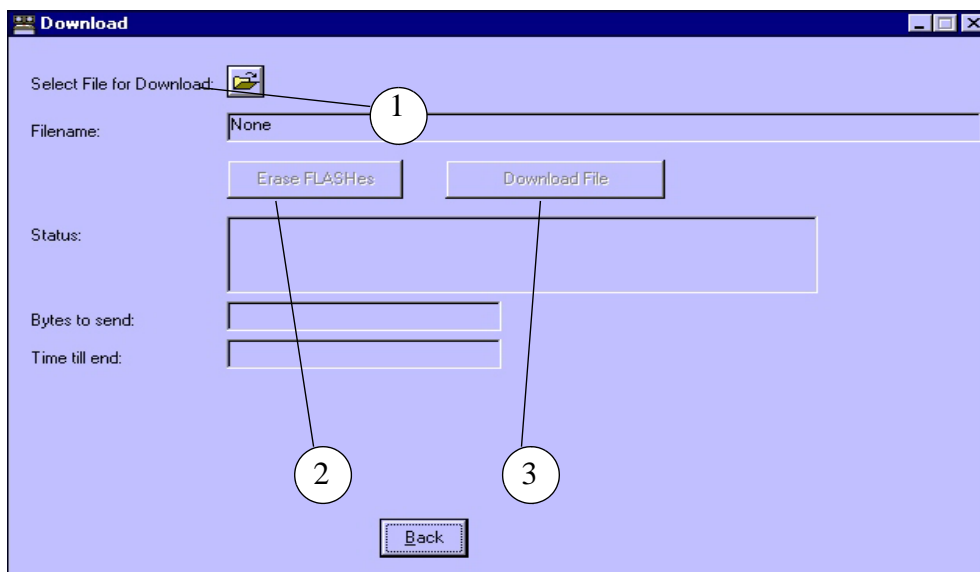

Fig. 4
- Click on the "Select file for Download:" button (1/Fig. 4).
- Then "Erase FLASHes" (2/ Fig. 4).